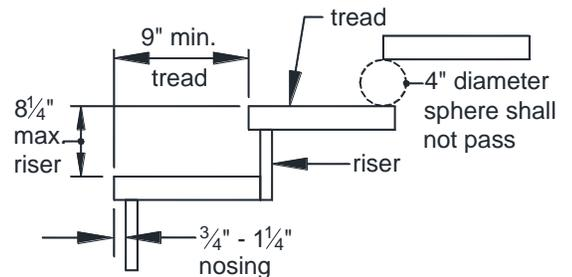

FIGURE 38: TREADS AND RISERS
- Stair geometry and opening limitations shall meet the requirements shown in FIGURE 38. Treads, risers and nosing dimensions shall not deviate at each step by more than $\frac{3}{8}$ inches. Note: a nosing is not required if a minimum 11" tread depth is provided.